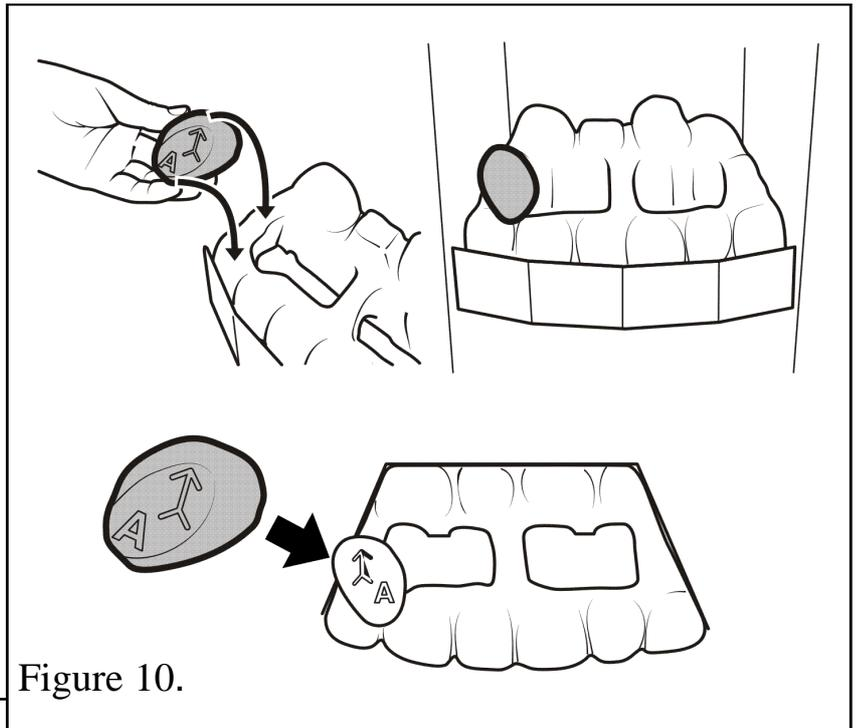

Figure 10.
2. The pebbles should be positioned so that the arrows always point towards the back of the fireplace opening. When located into position the stem of each arrow should be at 90° to the rear of the fireplace opening (See figure 10).
3. Hold pebble 'A' upright with the arrow pointing to the top. Place pebble "A" on top of the base pebble (See figure 10).